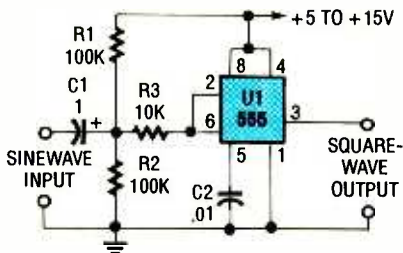

Fig. 1. This 555-based Schmitt trigger circuit converts sinewaves into squarewaves. This is useful for creating clock pulses from analog signals.
**Inside the Switch.** A functional block diagram of the Whistle Switch is shown in Fig. 1. The circuit, which is comprised of an electret microphone, an amplifier, a pair of tone detectors, two timer circuits, and a flip-flop, is a lot simpler than it may appear.
Fig. 1. The Whistle Switch is comprised of an electret microphone, an amplifier, a pair of tone detectors, two timer circuits, and a flip-flop, as shown by this functional block diagram of the circuit.
Figure 1 shows the 555 Schmitt-trigger circuit modified for use as a high-